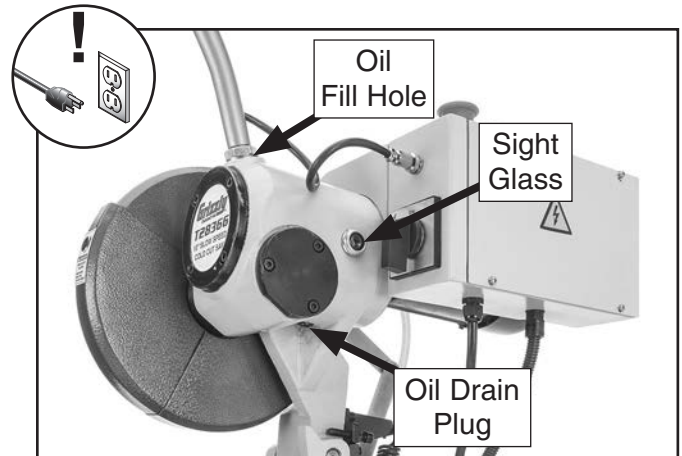

Figure 45. Oil fill and drain plug locations.
2. Raise saw to upmost position, and remove lever arm (see **Figure 45**) to access oil fill hole to allow oil to drain more freely.
3. Place oil drain pan beneath saw gearbox, and remove oil drain plug, located on bottom side of gearbox (see **Figure 45**).
4. Place oil drain pan beneath saw gearbox, and remove oil drain plug, located on bottom side of gearbox (see **Figure 45**).